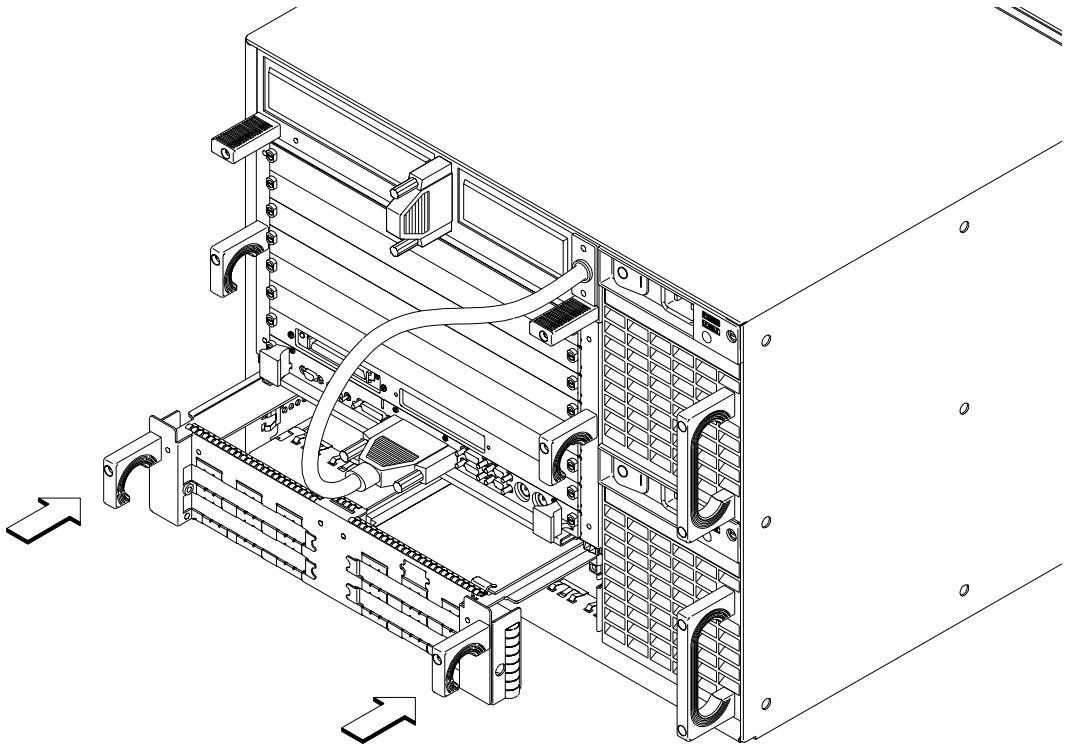

Figure 4-3 **Sliding the EISA Module Back into the VMEbus Chassis**
- 10 Slide the EISA module back into the VMEbus chassis, as shown in Figure 4-3, and then tighten its handle screws.